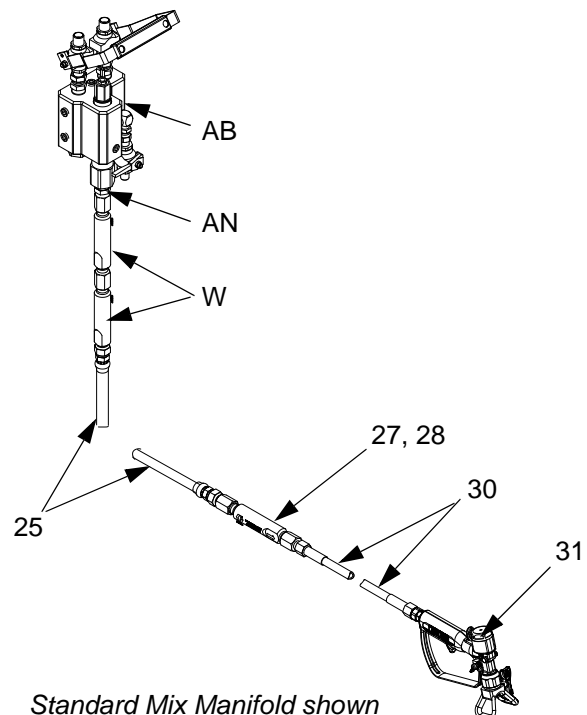

FIG. 11
1. Connect the outlet of the two primary static mixer tubes with mixer elements (W) to the fluid mix hose (25), cleanup mixer (27, 28), whip hose (30), and spray gun (31). See FIG. 11.
2. Add mixed material hose as necessary between the mix hose (25) and cleanup mixer (27, 28).